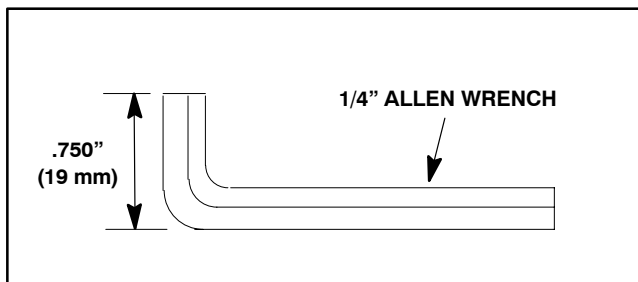

Figure 3
NOTE: Shorten a 1/4" allen wrench (Fig. 3) to allow access to socket head screws (item 2) that secure castor plate. If modified allen wrench is not available, remove front wheel to access socket head screws.
3. Loosen two (2) socket head screws (item 2) that secure castor plate to castor fork.
5. Tighten two (2) socket head screws to secure castor fork assembly.